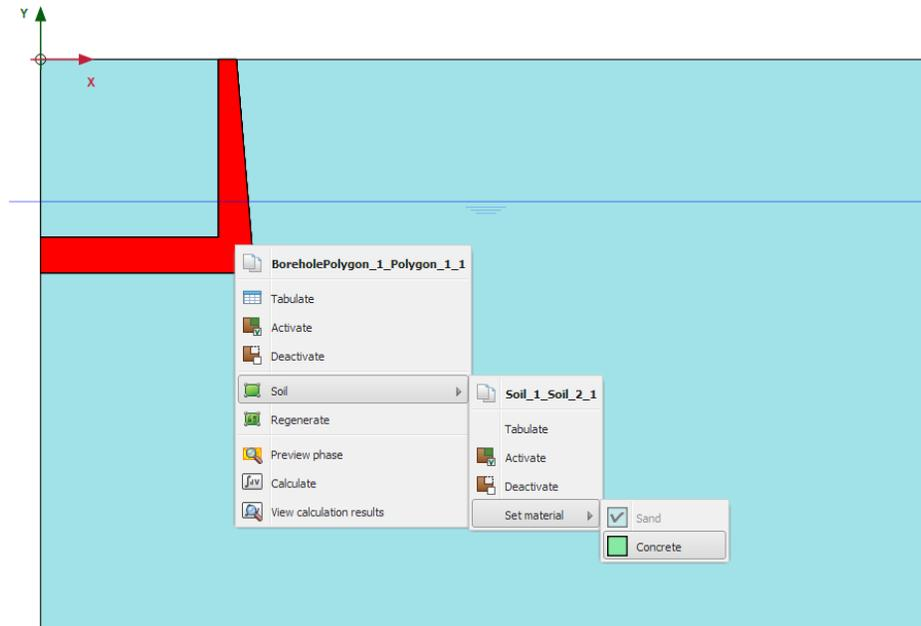

Figure 233: Concrete set as material for polygon
6. In the **Staged construction** mode, assign the **Concrete** dataset to the created polygon which represents the navigable lock as shown in Figure 233 (on page 264).